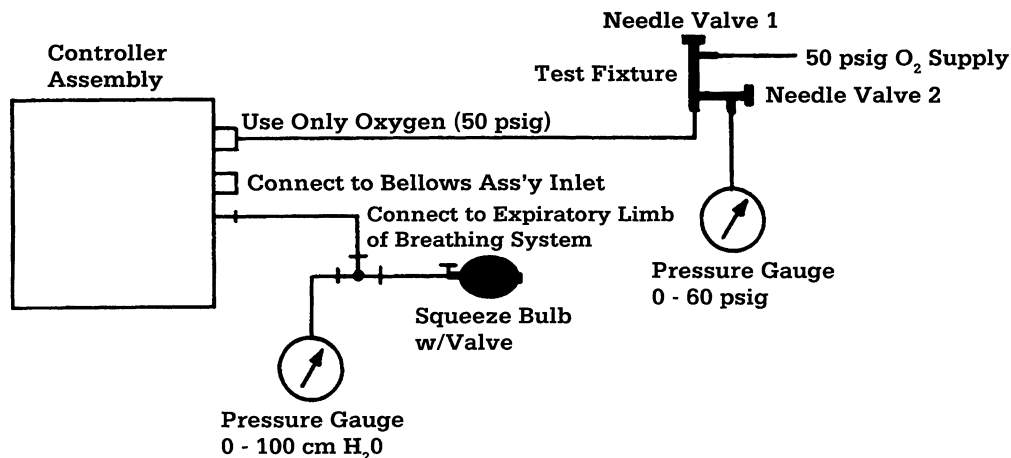

Figure 3-5
1. Connect the test equipment to the controller assembly as shown in Figure 3-5.